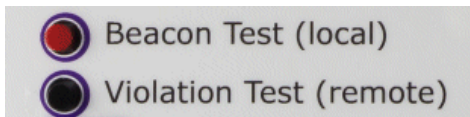

Figure 1-4: Test buttons
There are two (2) test buttons on the front of the WWD580 used for performing system tests. Beacon Test (red) and Violation Test (black) as shown in Figure 1-4 below: